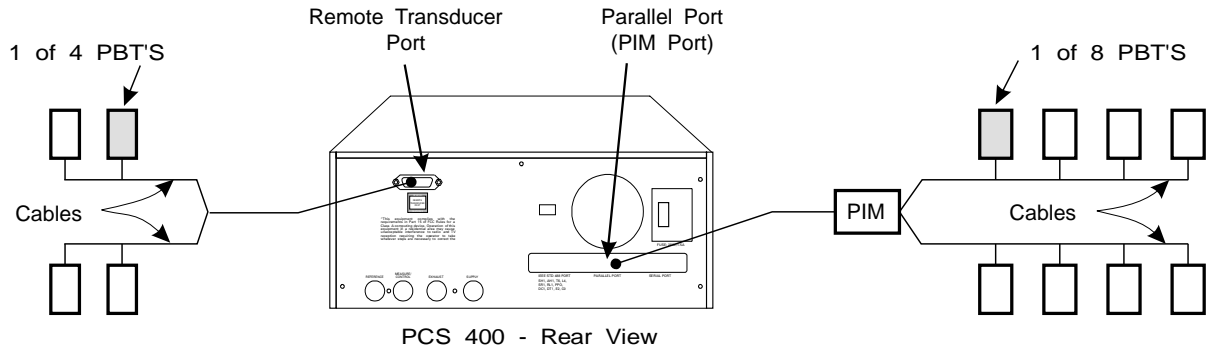

Figure 1 - Kit Configuration for Multiple PBT'S
A PCS 400 modified for use with up to four PBTs will have a 25 pin connector on the rear panel labeled REMOTE TRANSDUCER PORT (see figure 1). This port is a standard Centronics parallel port except for the power wiring. The pin-outs for this rear panel bus connector are the same as those shown in figure 4.
1. The PIM has a built-in ribbon cable approximately four feet long. Connect this cable to the PARALLEL PORT on the rear of the PCS 400 (see figure 1).
CAUTION: A PCS 400 WHICH HAS BEEN MODIFIED TO ACCEPT FROM ONE TO FOUR EXTERNAL TRANSDUCERS WILL HAVE AN EXTRA REAR PANEL CONNECTOR LABELED 'REMOTE TRANSDUCER PORT'. DO NOT CONNECT THE POWER INTERFACE MODULE TO THIS PORT. CONNECT THE PIM TO THE PARALLEL PORT, ONLY (SEE FIGURE 1).